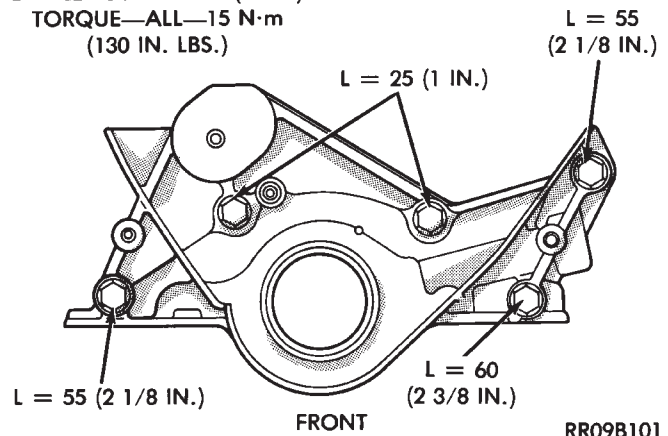

Fig. 6 Oil Pump Assembly
Remove 5 bolts that attach oil pump to block (Fig. 6).
- (1) Clean block and pump surfaces.
- (2) Install new gasket (Fig. 7) make sure correct length bolts are used (Fig. 6).
- (3) Torque bolts to 13 N·m (120 in. lbs.).